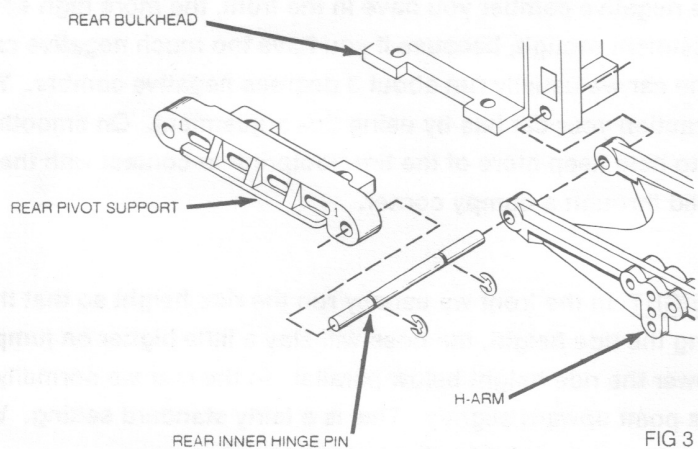

FIG 3
34. Secure H-arms as shown by sliding the inner hinge pin through the rear pivot support and into the rear bulkhead. Refer to FIG. 3